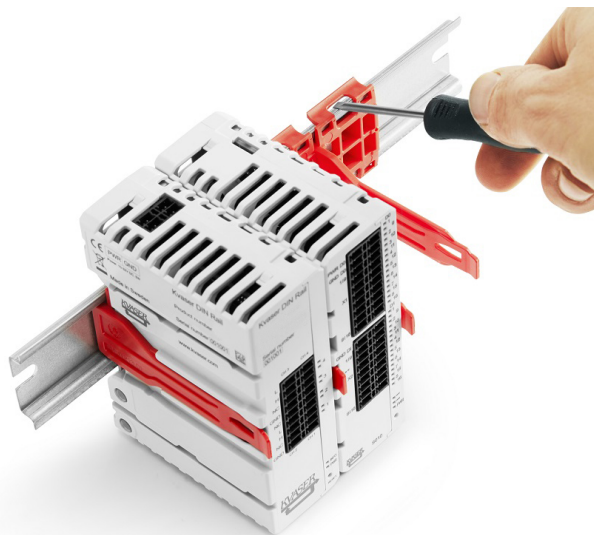

Figure 8: Removing the mounting clip from the DIN Rail.
3. Remove the mounting clip from the DIN Rail by use of a screw driver, see Figure 8 on Page 12.